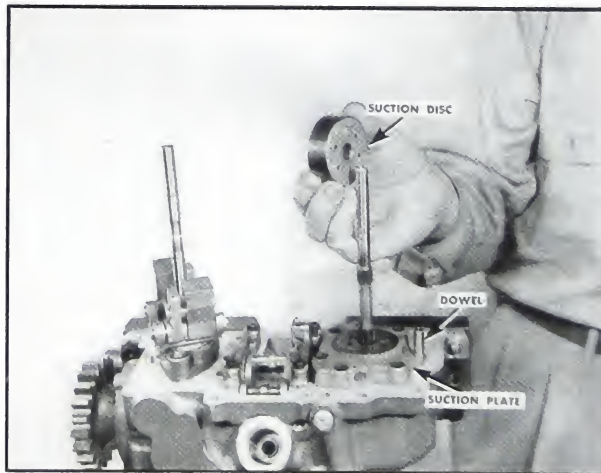

Fig. 5-330. Assemble suction disc
ing with six $\frac{1}{4}$ "—20 x $\frac{3}{4}$ " socket head capscrews and lockwashers. Its location is determined by the same locating dowel that locates the upper housing to the main housing. Fig. 5-330.
2. Apply a generous supply of vaseline to the disc and assemble the disc to the plate. Fig. 5-330.